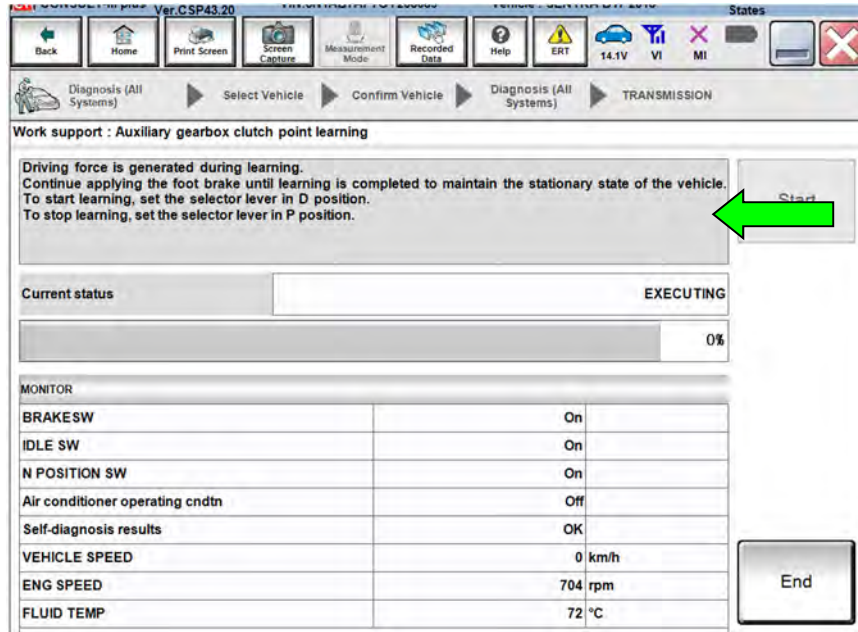

Figure 281
- Figure 281 will be displayed after shifting into **D** position.